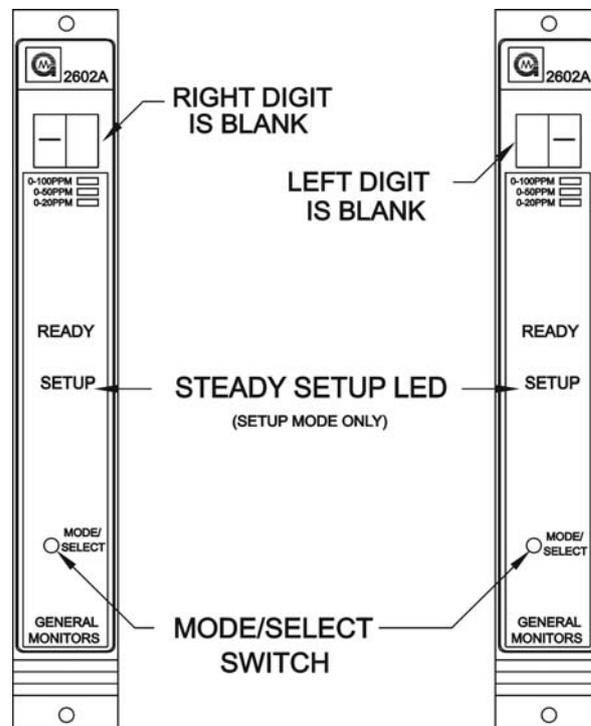

Figure 23 – Entering the Password
- The left digit of the display will then blank out and a bar (-) will appear in the right digit on the display (Figure 23). Press the **Mode/Select** switch until your correct password number is displayed, then wait about five seconds. If the password is correct the unit will proceed to the inhibit option. If the password is incorrect the user will not be able to proceed and the unit will return to the normal operating mode. Once in the operating mode the user may attempt to re-enter the **Setup Mode**. The factory default password is **00**.